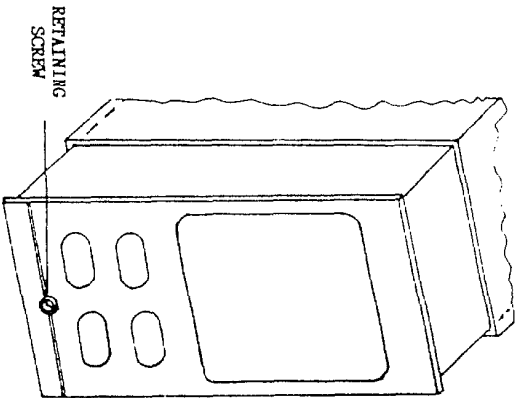

FIGURE 2-4 REMOVAL AND REPLACEMENT OF 3100 WITHIN HOUSING.
2.4 REMOVAL OF INSTRUMENT FROM HOUSING (See Figure 2-4)